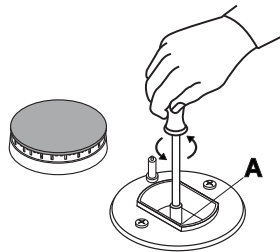

Fig.6
2. Unscrew the nozzles using a 7 mm socket spanner (fig.6), and replace them with nozzles for the new type of gas (see table 1 "Burner and nozzle characteristics").